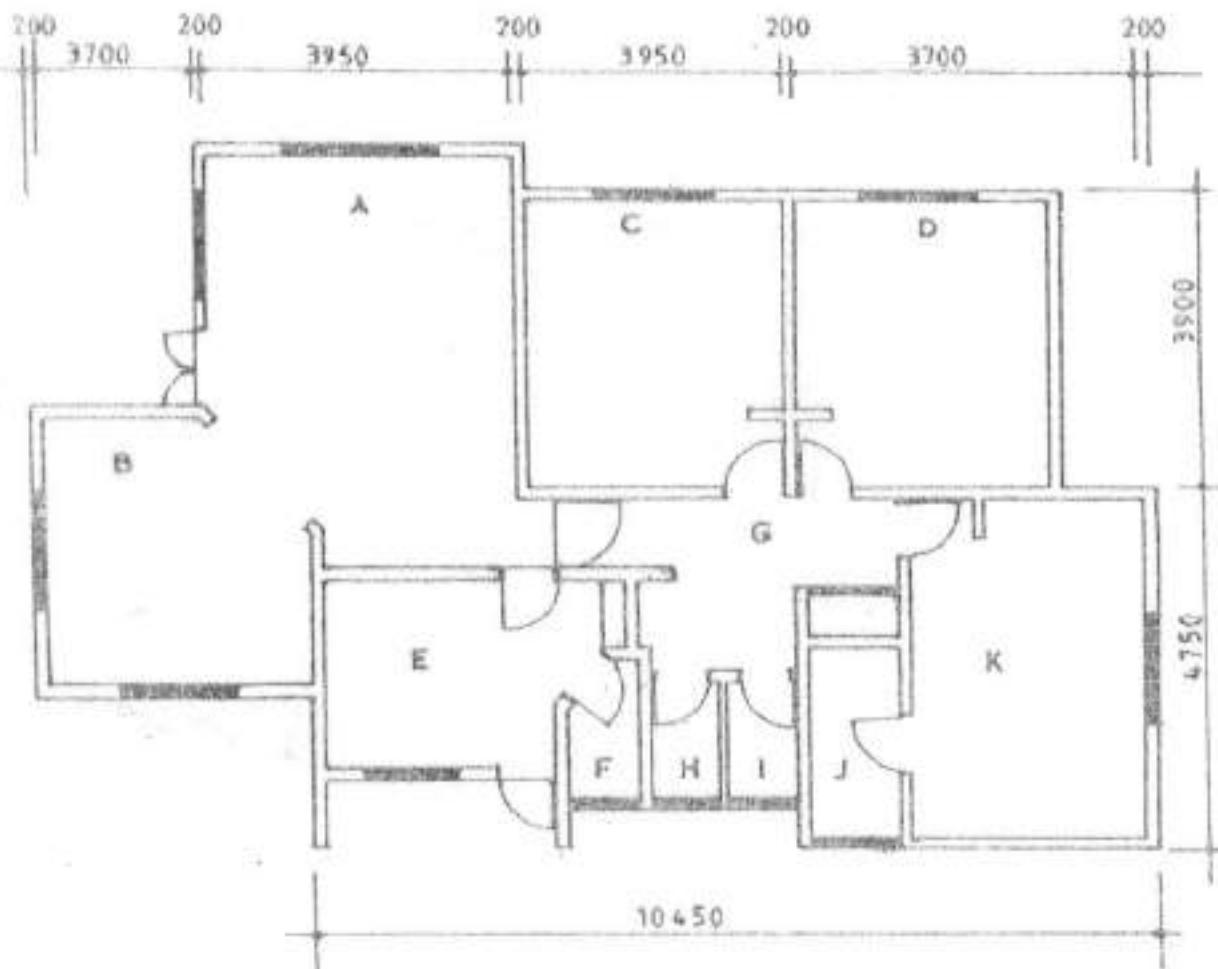

Fig. 6
7. Figure 6 shows the ground plan of a floor layout for a three bedoomed house. Make a suitable design for lighting and power points for the installation. Use appropriate architectural symbols and draw a key to describe the symbols used. (20 marks)